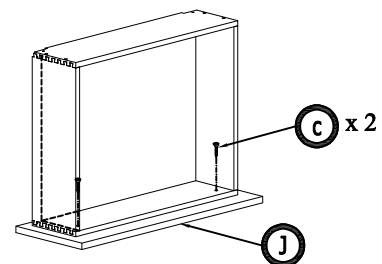

Figure 6
6. Assemble the screw 1" from inside of drawer box front with drawer front into the free hole in the drawer front (Figure 6)